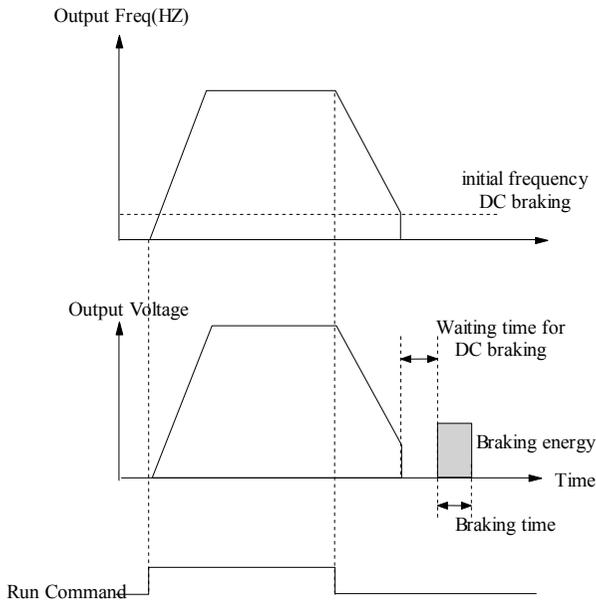

Figure. 5-3-5 DC braking
- ◆ Use the terminal to perform DC braking to the system during the stopping process for accurate positioning of the motor. Braking starting frequency, braking waiting time, brake current are defined in P1.11 ~ P1.14; the braking time is bigger one between the time defined by P1.15 and the effective duration of the control terminal, which is as shown in Fig. 5-3-5.